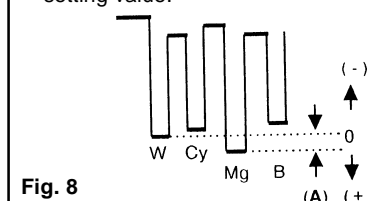

Fig. 8
- Adjust NTSC 3.58 Tint to bring the value of (A) of fig. 8 to 0V (voltage difference between white and magenta).